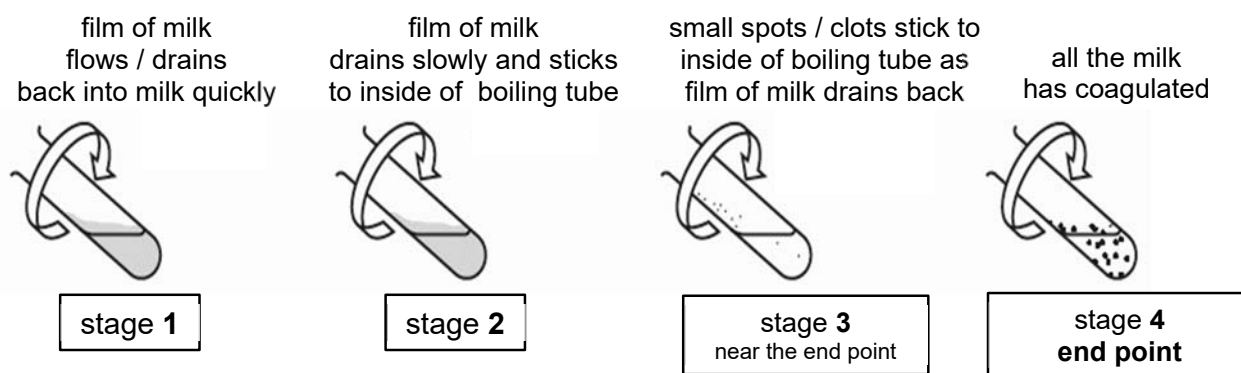

Fig. 1.1
When a mixture of milk, calcium chloride solution and **E** is gently rotated in a boiling tube the coagulation goes through the stages shown in Fig. 1.1.
Stage **4** is the end-point of the enzyme-catalysed coagulation as shown in Fig. 1.1.
- 13 Observe the film until the end-point is reached (stage 4 in Fig. 1.1). Ignore any small bubbles on the inside of the boiling tube. Stop timing.